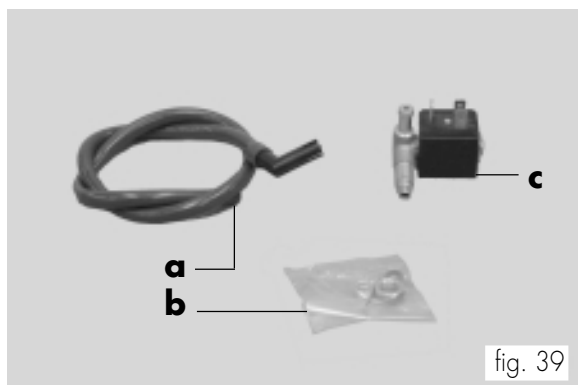
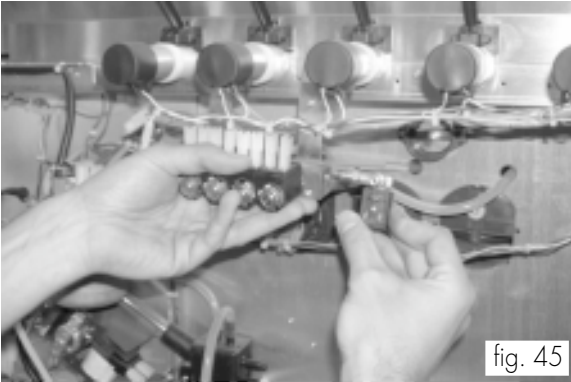
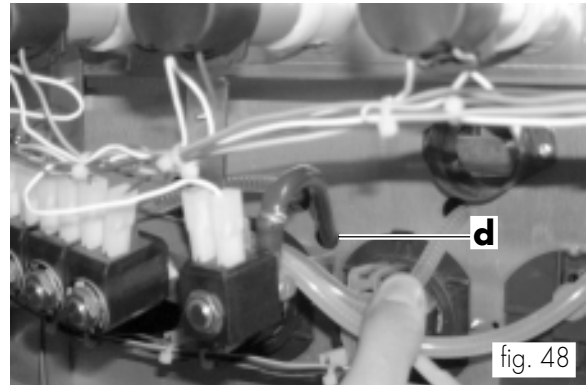

fig. 39
fig. 45
fig. 48
### Assembly kit (fig. 39)
- Screw the nut and fix the OR (ref. b, fig. 39) on the 2-way solenoid valve (ref. c, fig. 39). Remove the block support from its seat and screw the solenoid valve in the hole (fig. 45) previously cleared from its cap (fig. 41). The solenoid valve must be placed with fastons upwards. Reinstall the block support in their seat and tighten the screws.
- Insert the pipe clamp (ref. b, fig. 39) on pipe (ref. a, fig. 39). Then, fasten the pipe (fig. 48) at the solenoid valve outlet and position the pipe retaining spring. Slide the other end of the pipe inside the assembly plate passage hole (ref. d, fig. 48).